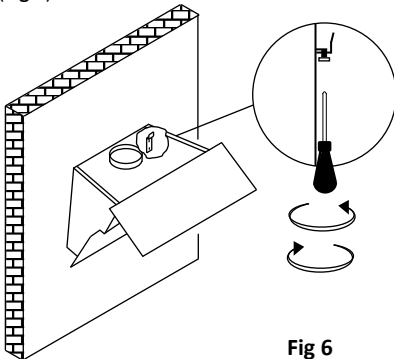

Fig 6
4. Hang the Vivaldi over the bracket and fix with screws (Fig 6).